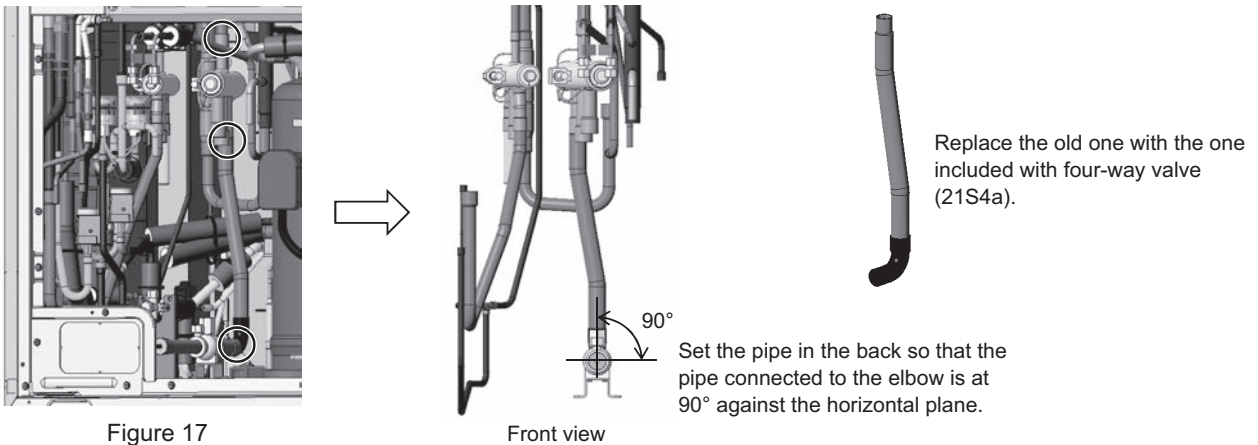

Figure 17
- (17A) Mount four-way valve (21S4a) to the pipe below four-way valve (21S4a) and on the back. A total of four areas require brazing, including the area indicated in (16A) and the areas indicated in Figure 17.